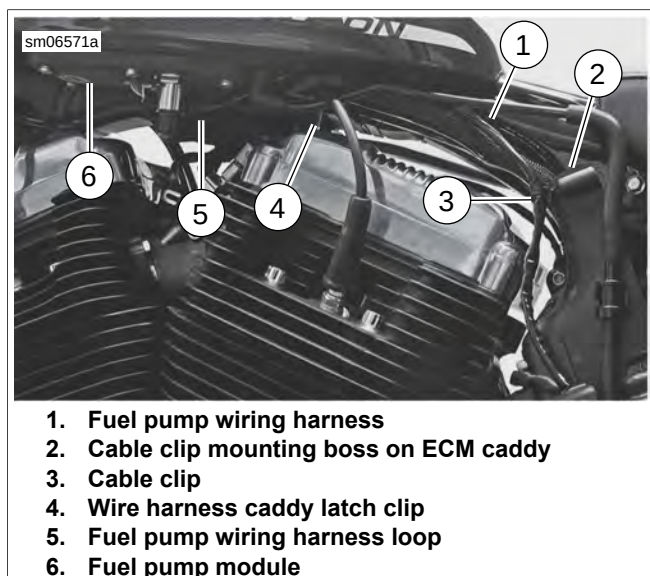

Figure 4-10. Fuel Pump Wiring Harness Routing
4. See Figure 4-10. Place a clean, soft cloth over front of fuel tank to keep tank from contacting top fork clamp and damaging paint.
6. Place fuel pump wiring harness (1) into clip on wire harness caddy latch clip on frame backbone tube. Verify that